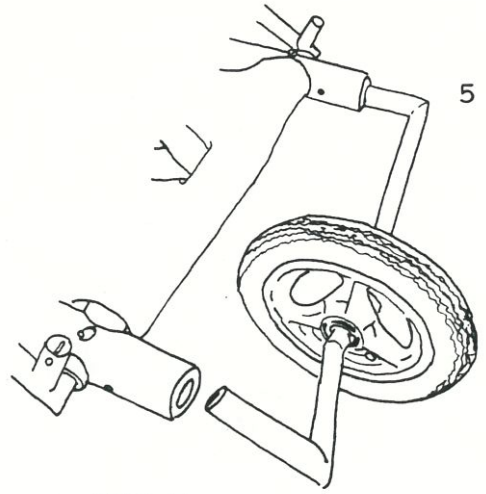

FIG. 5
5. Before attaching the second wing, assemble the wheel and axle halves. Lift the rear of the cage, plug in, and pin the axles to the hang-tubes.(fig.5)